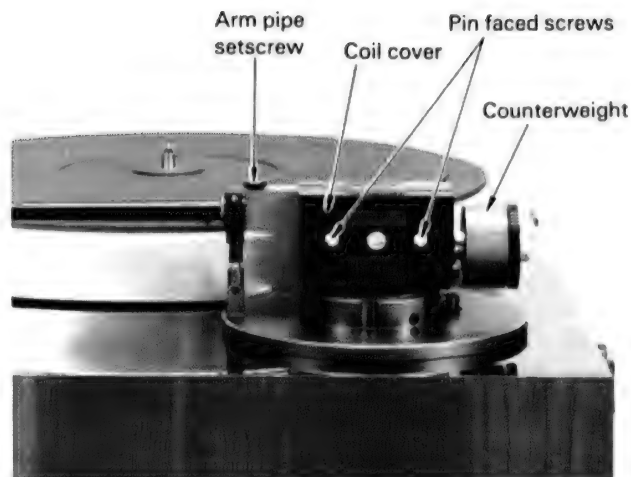

Fig. 24
■ Removal of vertical coil (Figs. 24 and 25)